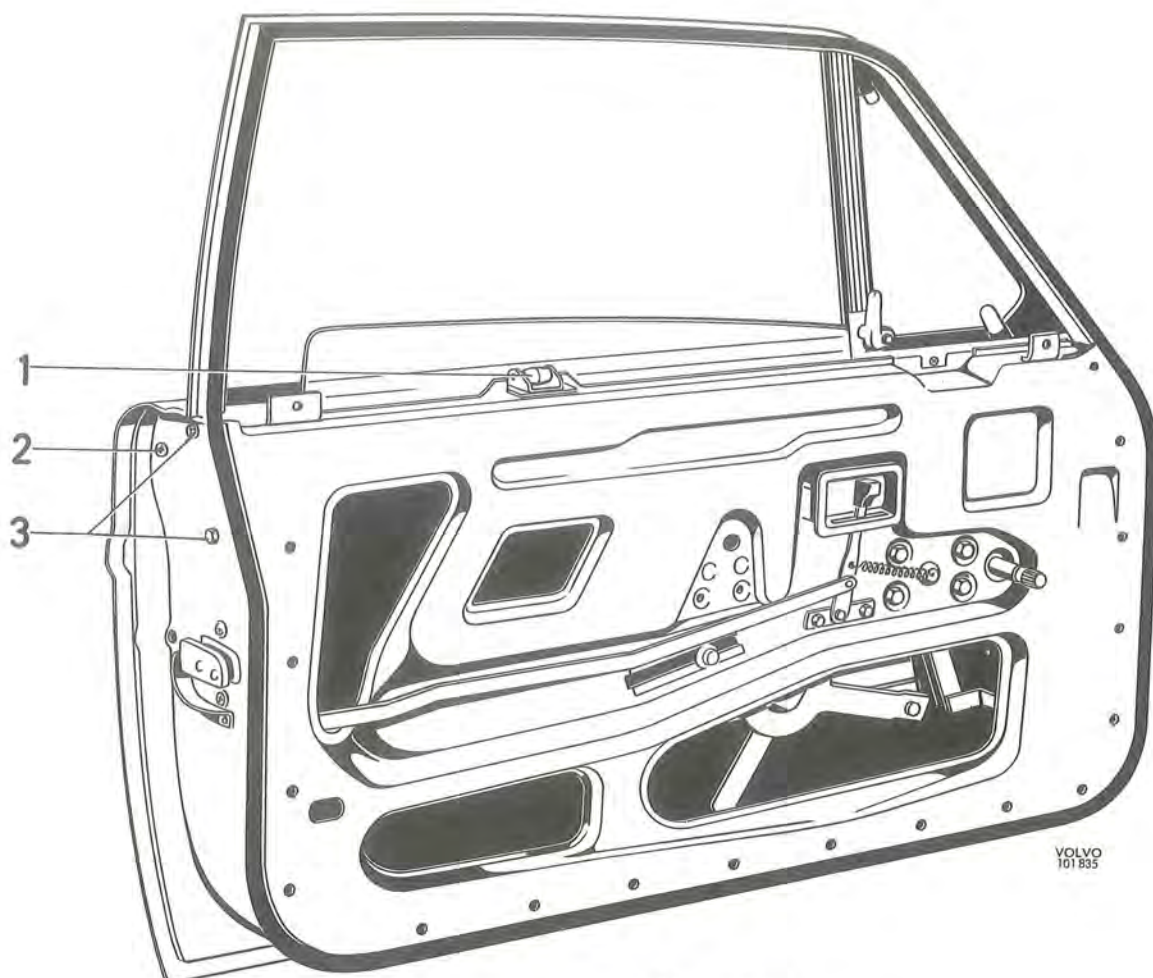

Fig. 8-8. Front door
Remove the door stop in accordance with the instructions under "Removing and fittings door stops". Unscrew the bolts between the hinges and door. The bolts are accessible when the door is opened. The door can then be taken off (Fig. 8-8).
2. Remove the guide roller for the window. The guide roller is placed at the upper edge of the door as shown in Fig. 8-8.